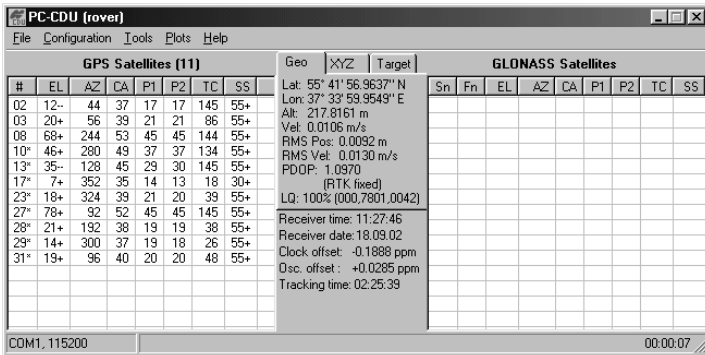

Figure 3-13. PC-CDU Main Screen
9. On the main screen (Figure 3-13), check the LQ field to ensure the receiver obtains differential corrections. Usually, the receiver will start to output the coordinates of the antenna’s phase center along with the solution type within 10–30 seconds.